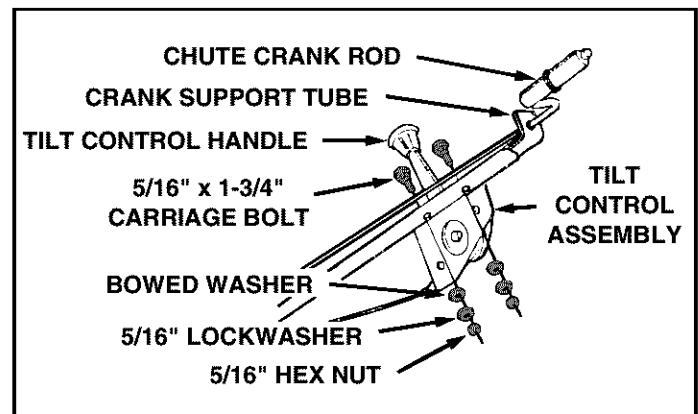

FIGURE 18 LEFT SIDE VIEW
- Attach the chute tilt control assembly to the top side of the crank support tube using two 5/16" x 1-3/4" carriage bolts, bowed washers, 5/16" lock washers and 5/16" hex nuts. See figure 18.